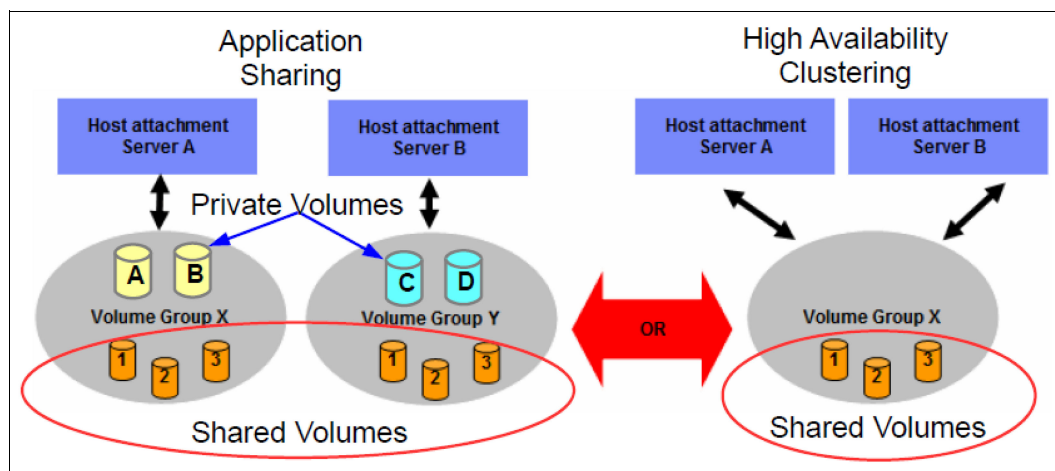

Figure 10-1 LUN configuration for shared access
- ▶ Assign multiple ranks to extent pools to take advantage of storage pool striping. Additionally, assign ranks from multiple device adapter (DA) pairs to an extent pool to spread the workload and increase performance. See 6.5.2, “Data placement in the DS8000” on page 164.
- ▶ The following options are available for fixed-block (FB) pools:
- If LUN sharing is required, the following options are available (Figure 10-1):